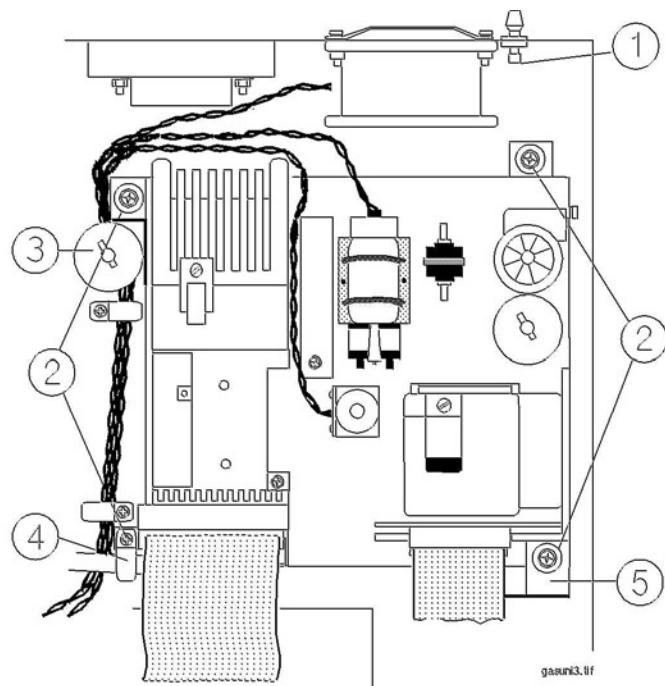
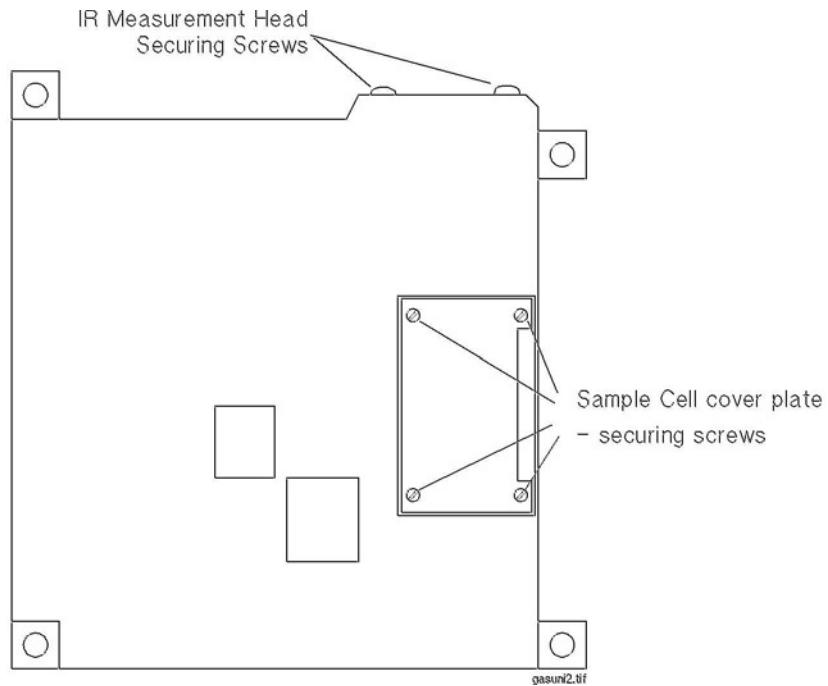

Figure 28 Lifting the IR Measurement Mounting Bracket
Figure 29 Underside of the IR Measurement Mounting Bracket
Several of the field replaceable subassemblies are mounted on the IR measurement mounting bracket, which is a subassembly of the Anesthetic Gas Module, as shown in Figure 28.
To lift the IR Measurement mounting bracket (refer to Figure 28 and Figure 29):
- 3 Remove the connection from the gas exhaust (1).
- 4 Using a cross-tipped screwdriver, remove the four screws and lock washers (2) securing the IR Measurement mounting bracket to the module.
- 5 Lift the IR Measurement mounting bracket and stand it carefully on its end, so that the ribbon cables are at the bottom. The securing screws on the underside are now accessible, as shown in Figure 29.
To replace the IR Measurement mounting bracket (refer to Figure 28 and Figure 29):